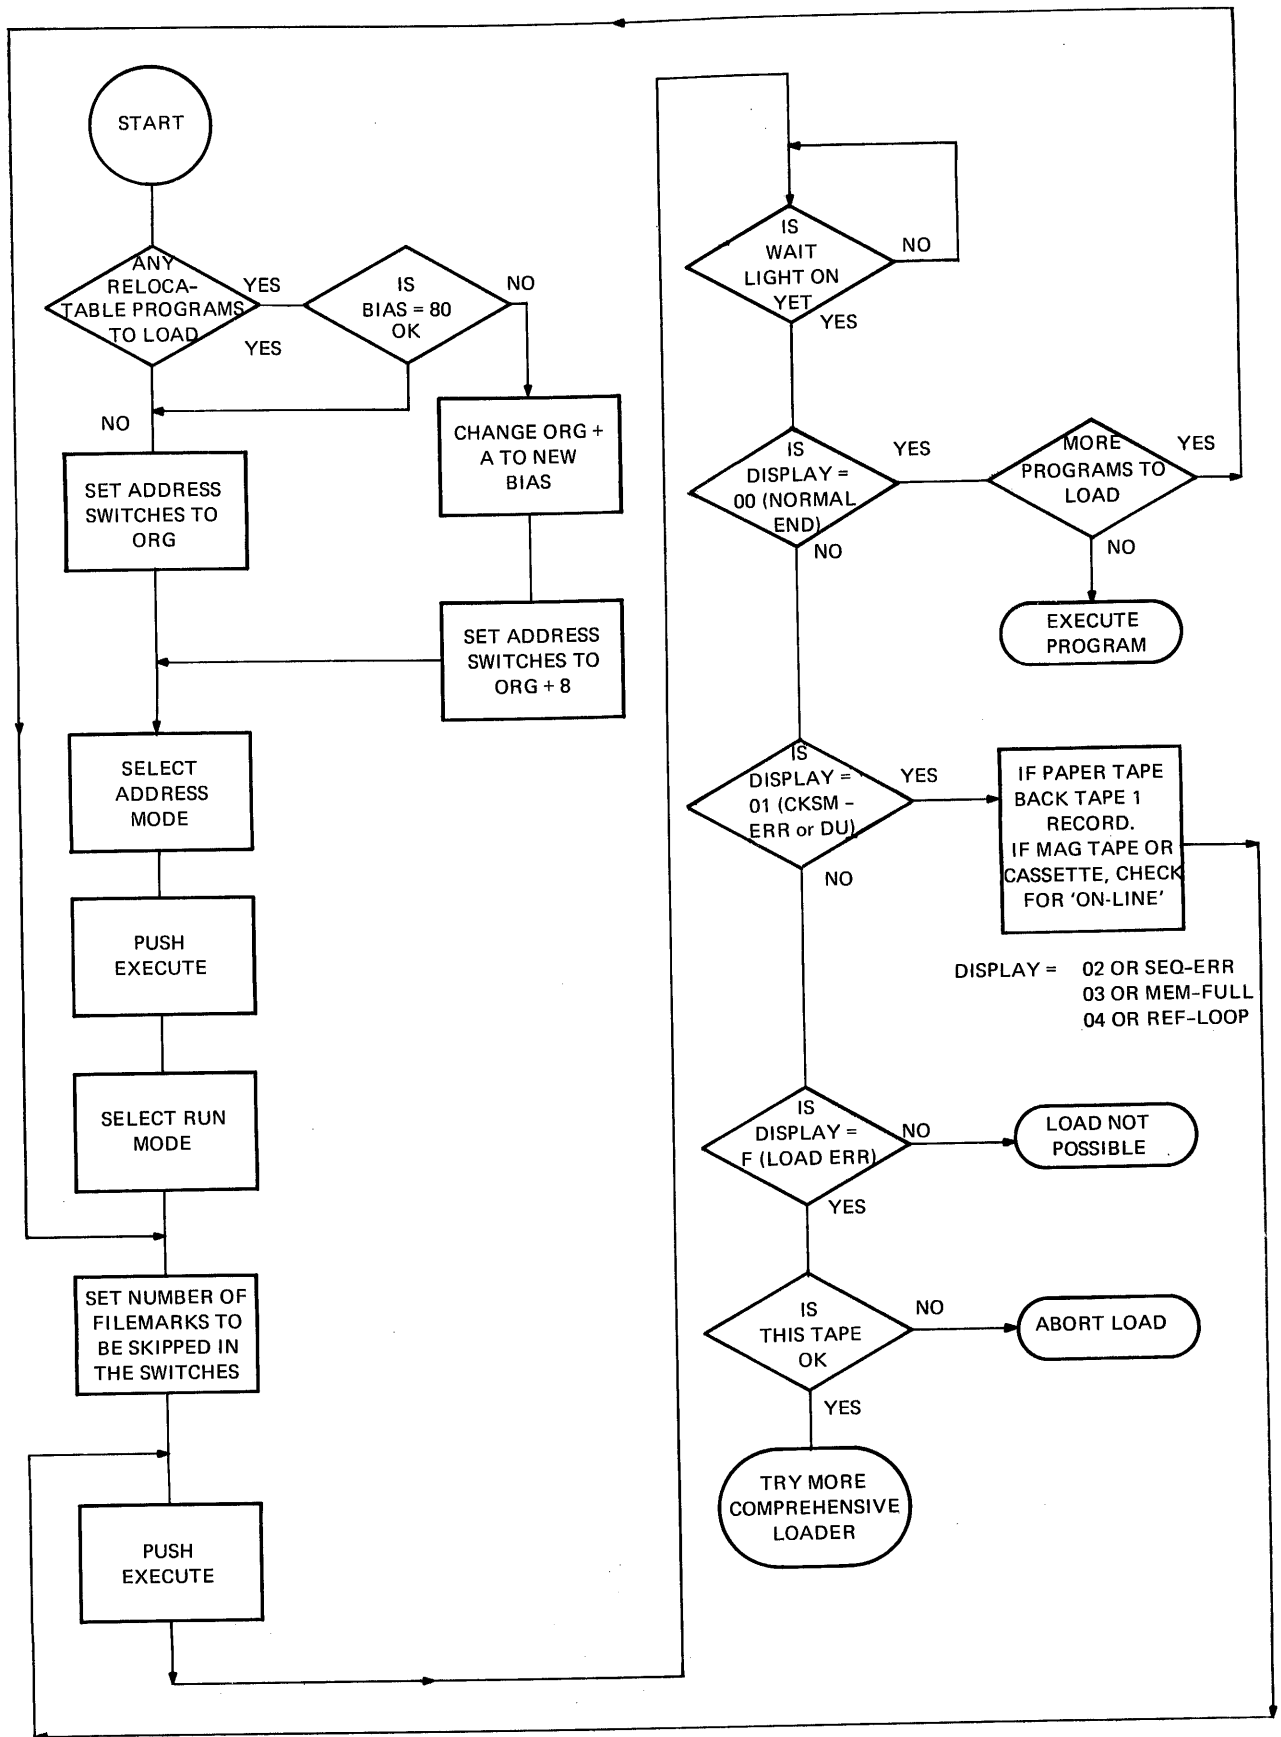

Figure 2. Operating Procedures
12. If more tapes are to be loaded, return to Step 8 and repeat the process. This loading process is summarized in Figure 2.